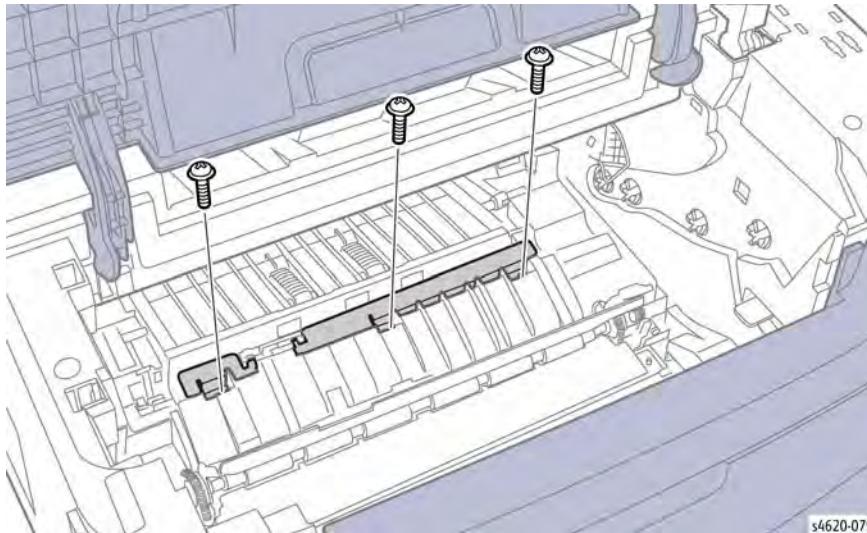

Figure 1 Remove the transfer roller guide plate
4. Remove 3 screws (plastic) that secure the transfer roller guide plate, Figure 1.